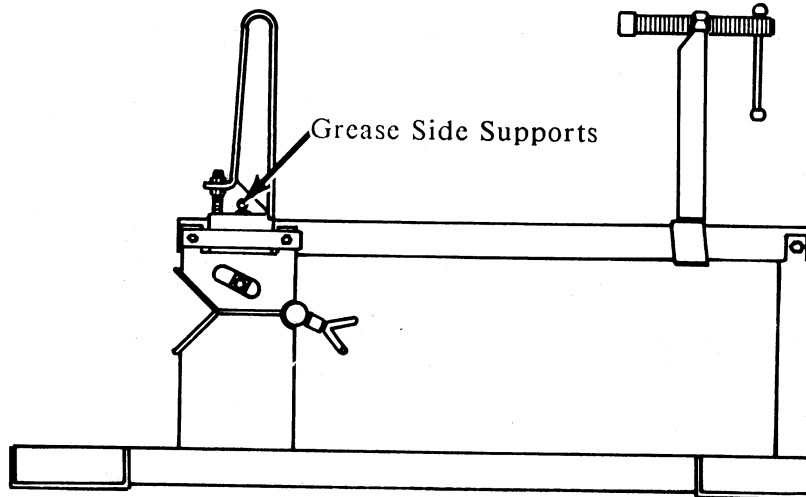

FIGURE 2
- Grease the side supports (See Figure 2). Certain woods have high levels of acid in the sawdust that will react with steel, causing excessive wear. The grease is primarily for purging any sawdust out of the critical areas.